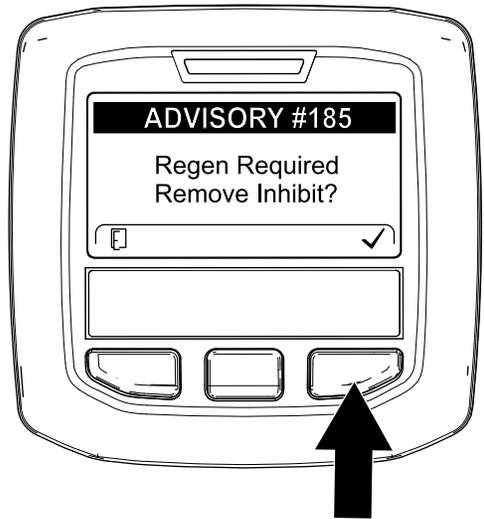

Figure 68
**Note:** If INHIBIT REGEN is set to ON, the InfoCenter displays ADVISORY #185 (Figure 68). Press button 3 to set inhibit regeneration setting to OFF and continue with the reset regeneration.